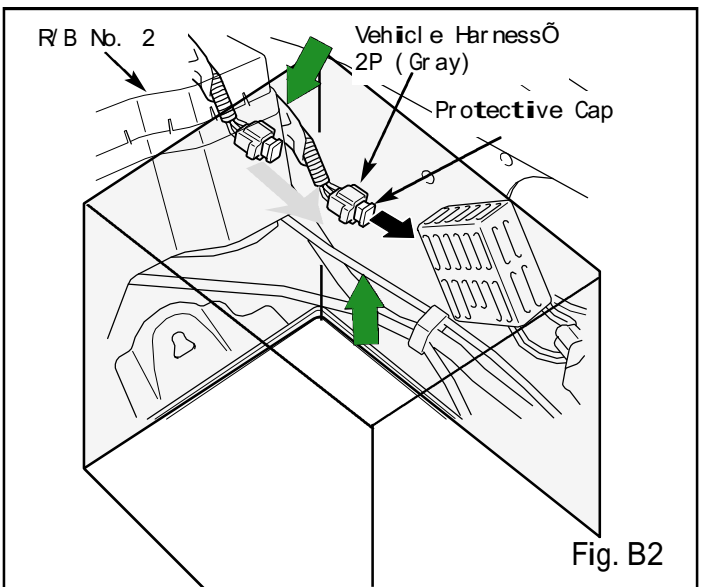

Fig. B2
2. Locate the vehicle harness gray 2P connector, then remove and discard the black cap. (Fig. B2)